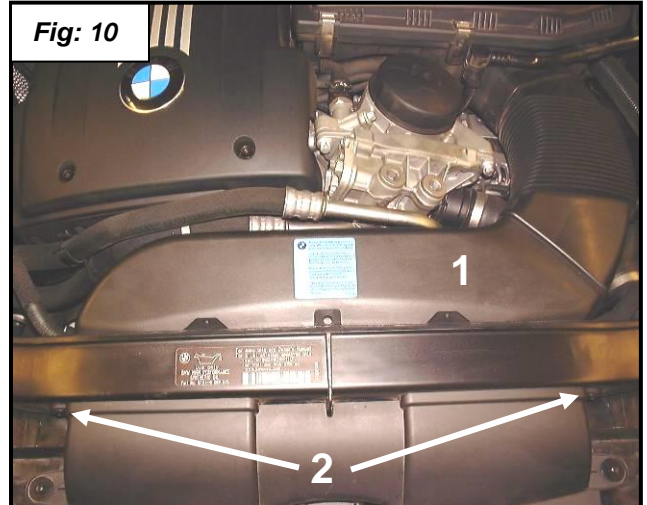

Fig: 10
15. Remove the air duct (1) that goes from the top of the radiator to the air box by removing the screws (2). See figure 10.